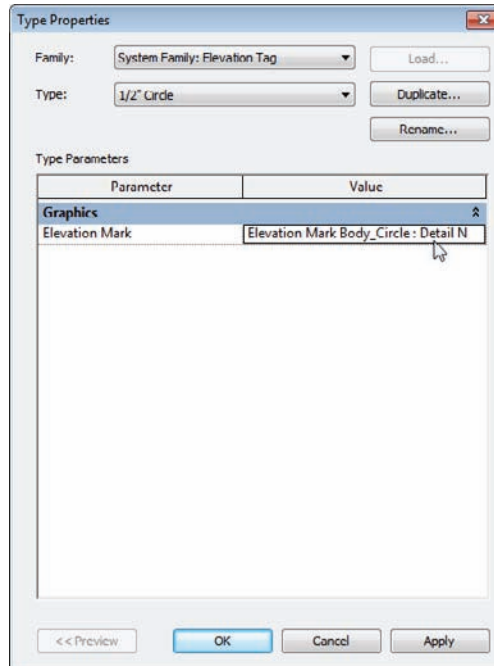

FIGURE 3.85 Modifying the properties for the elevation markers
2. At the top of the Type Properties dialog, you will see Family: System Family: Elevation Tag. Below that you will see Type. Change Type from 1/2" square to 1/2" circle (see Figure 3.85).